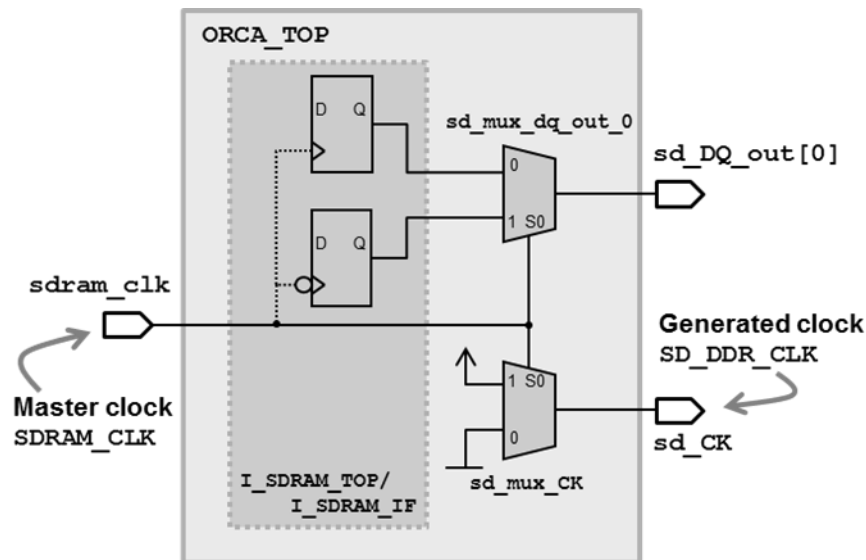

Figure 1: SDRAM interface
- ✓ Figure 1 shows the SDRAM interface. The clock SDRAM_CLK is connected directly to the select pins of muxes, which in turn will drive the output ports of the ORCA_TOP block. The dummy mux driving sd_CK is required because of the tight timing requirement of the DDR SDRAM interface, which produces data at its output data ports on both the rising and the falling clock edges. This design requires that the clock skew from SDRAM_CLK to sd_DQ_out and sd_CK be optimized. By default, select (S0) pins are marked as implicit ignore pins. To have CTS balance the skew you need to redefine these select pins as sink pins.
- ✓ In the view window that should still be open (see the last step of the previous Task), notice that just above and below the sd_CK line, the MUX select pins described in Figure 1, I_SDRAM_TOP/I_SDRAM_IF/sd_mux_CK*/S0, are, in fact, also implicit ignore pins.